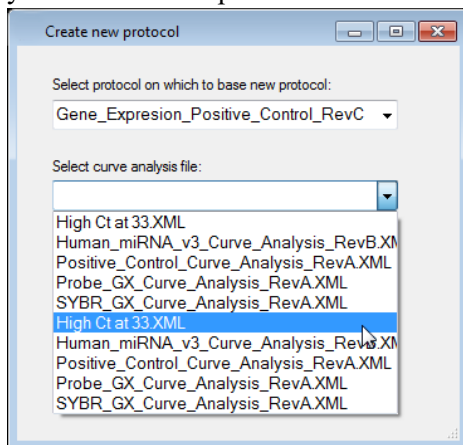

Figure 17. Create new protocol window.
- e. From the **Advanced** drop-down menu, select **Create user protocol...** In the window that opens (Figure 17), choose the protocol that you want to modify with your newly created curve analysis settings. In the next pull-down menu, choose the curve analysis settings file you created in Step c.